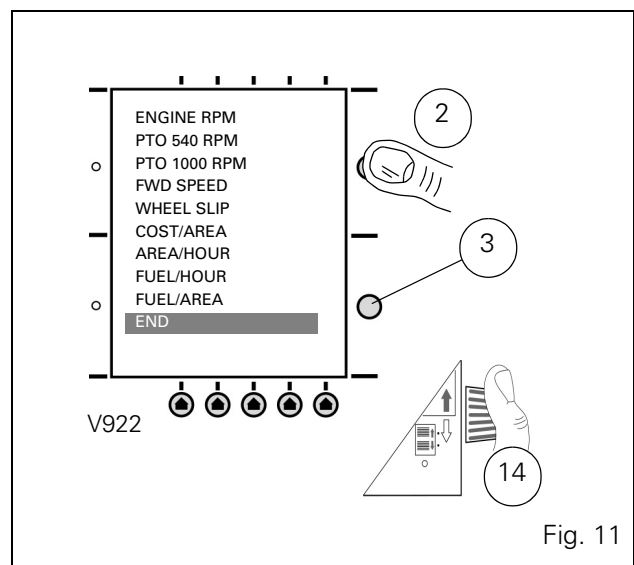

Fig. 11
- Turn the knob 14 to select, for example, the **-ENGINE RPM-** line, and press key 2 or 3. The Datatronic displays the same function on both half-screens. The upper part displays the stored data, the lower part displays the real working data, and the LED flashes.
- When the required working conditions are entered, press the memory key ref.10; the new data is stored in the upper window.
- To quit the comparative mode, press key 2 or 3 to return to the menu.
- Select **-END-** by turning the knob 14 (Fig. 11). Press 2 or 3 again to display the active mode data.